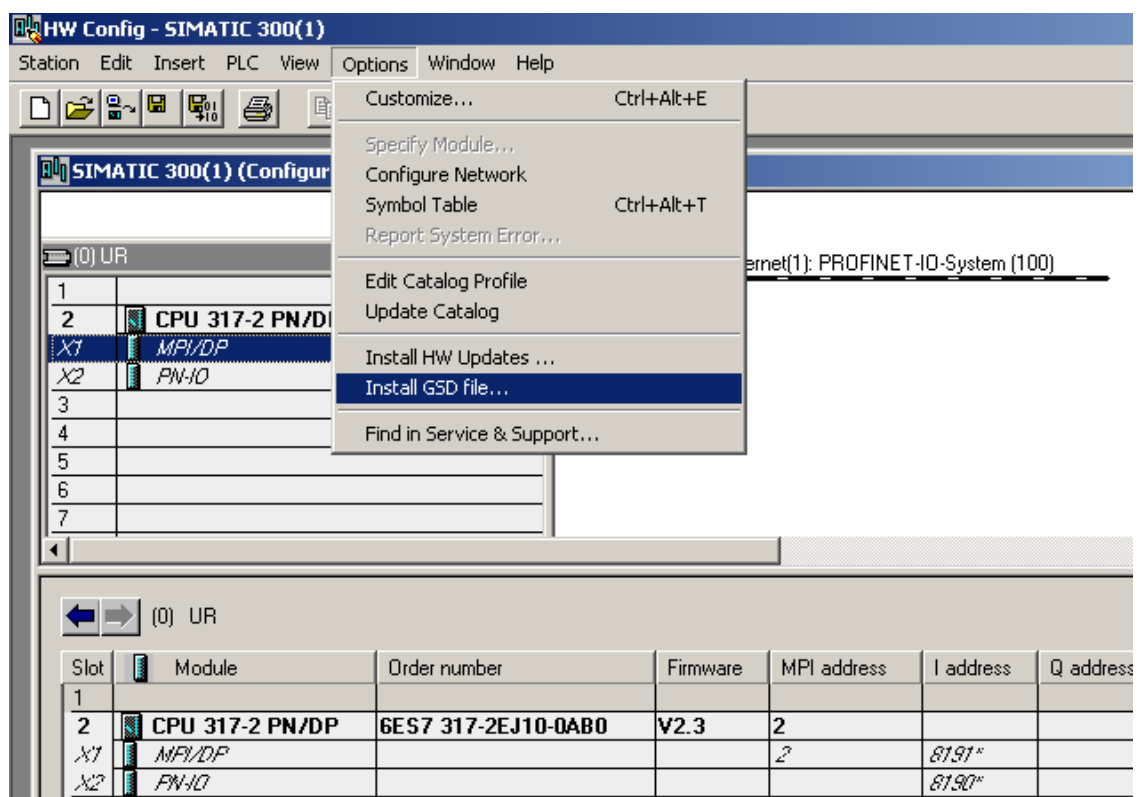

Figure 8
5. Enter the “HW config” of STEP7 and import the GSDML file for the gateway as shown in the figure 8.